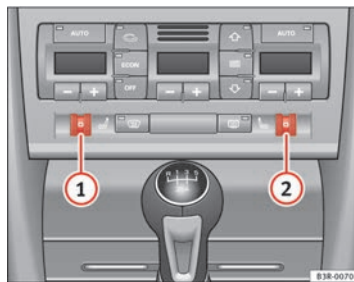

Fig. 135 Detailed view of instrument panel: Thumbwheel controls for seat heating
Turn thumbwheel **①** or **②** ⇒ fig. 135 to switch on and adjust the heating on the left or right front seats.